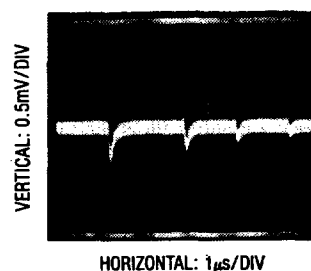

Figure 13. Adequate Reference Settling
2. Transients on the reference input caused by the capacitive switching currents must settle completely during each bit test (each CLK cycle). Figures 13 and 14 show examples of both adequate and poor settling. Using a slower CLK will allow more time for the reference to settle. However, even at the maximum CLK rate of 500kHz most references and op amps can be made to settle within the  $2\mu s$  bit time.